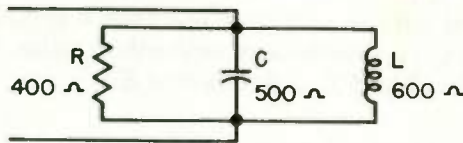

Fig. 27
4. Find the impedance of the circuit of Fig. 27.